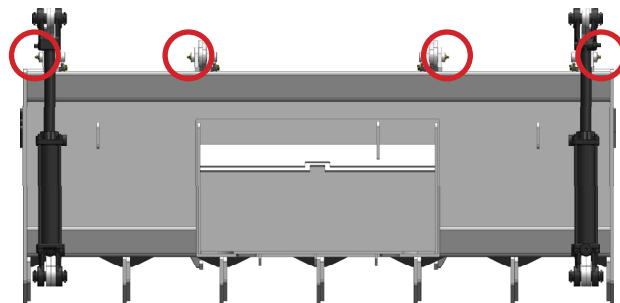

Figure 1
The Mini Grapple Rake has four (4) grease points (see Figure 1).